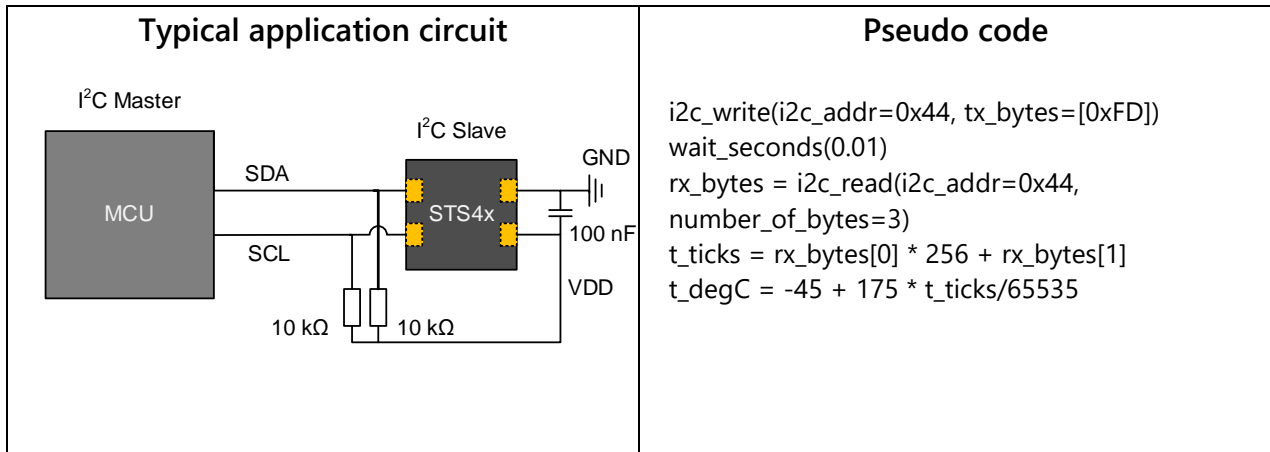

Figure 1. Typical application circuit (left) and pseudo code (right) for easy startup.
Figure 1 shows a typical application circuit for the STS4x on the left-hand side. After reaching the minimal supply voltage and allowing for the maximal power-up time of 1 ms, the sensor is ready for I²C communication. The quickest way to measure temperature is pseudo-coded on the right-hand side of Figure 1. Using the conversion formulae given in equations (1) and (2), the digital signal can be translated into temperature readings.